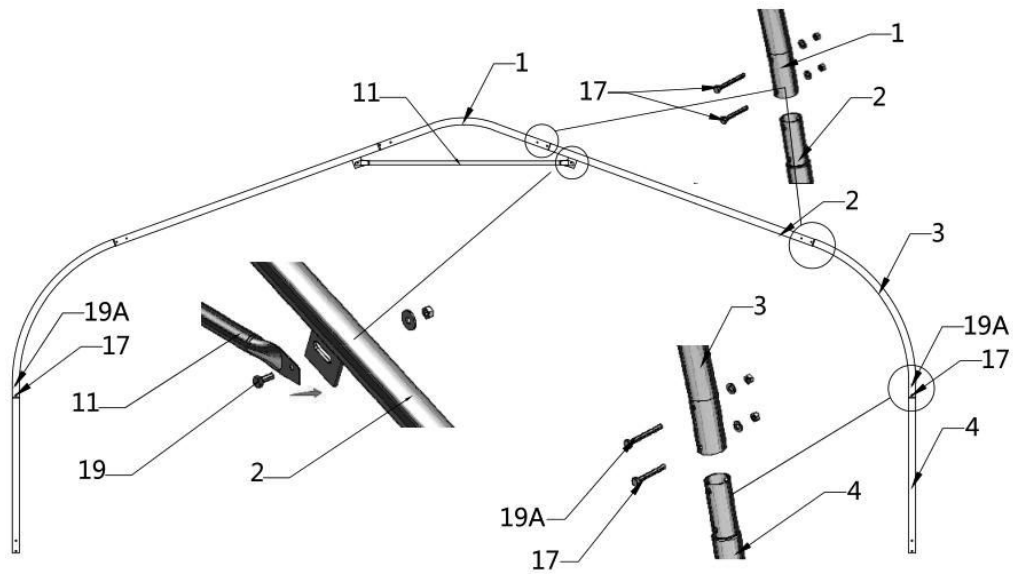

Figure 3
- Parts used to install the rear truss in this step (refer to figure 3) :
- (1) Peak arch tube (#1)
- (2) Upper rafter tube (#2)